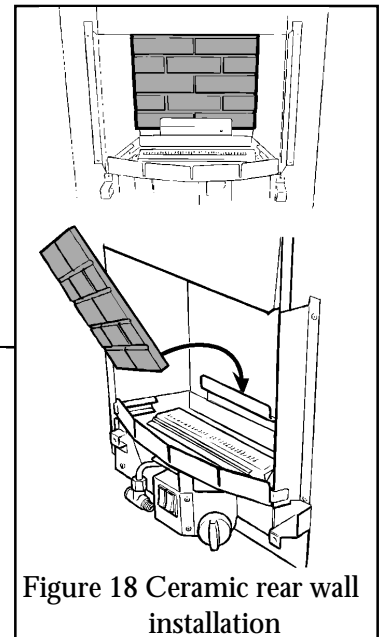

Figure 18 Ceramic rear wall installation
10.1 With its feather edge at the top, place the ceramic rear wall into the channel at the back of the fire box. Push the wall flat against the rear of the fire box. (See figure 18).